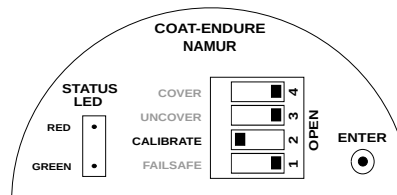

Figure 50: Calibration Switch Position
- To start the calibration process, set the CALIBRATE switch to CLOSE (Opposite of OPEN in a DIP switch) position as shown in Figure 50.
- Set the CALIBRATE switch to CLOSE (Opposite of OPEN in a DIP switch) position as shown in Figure 50.